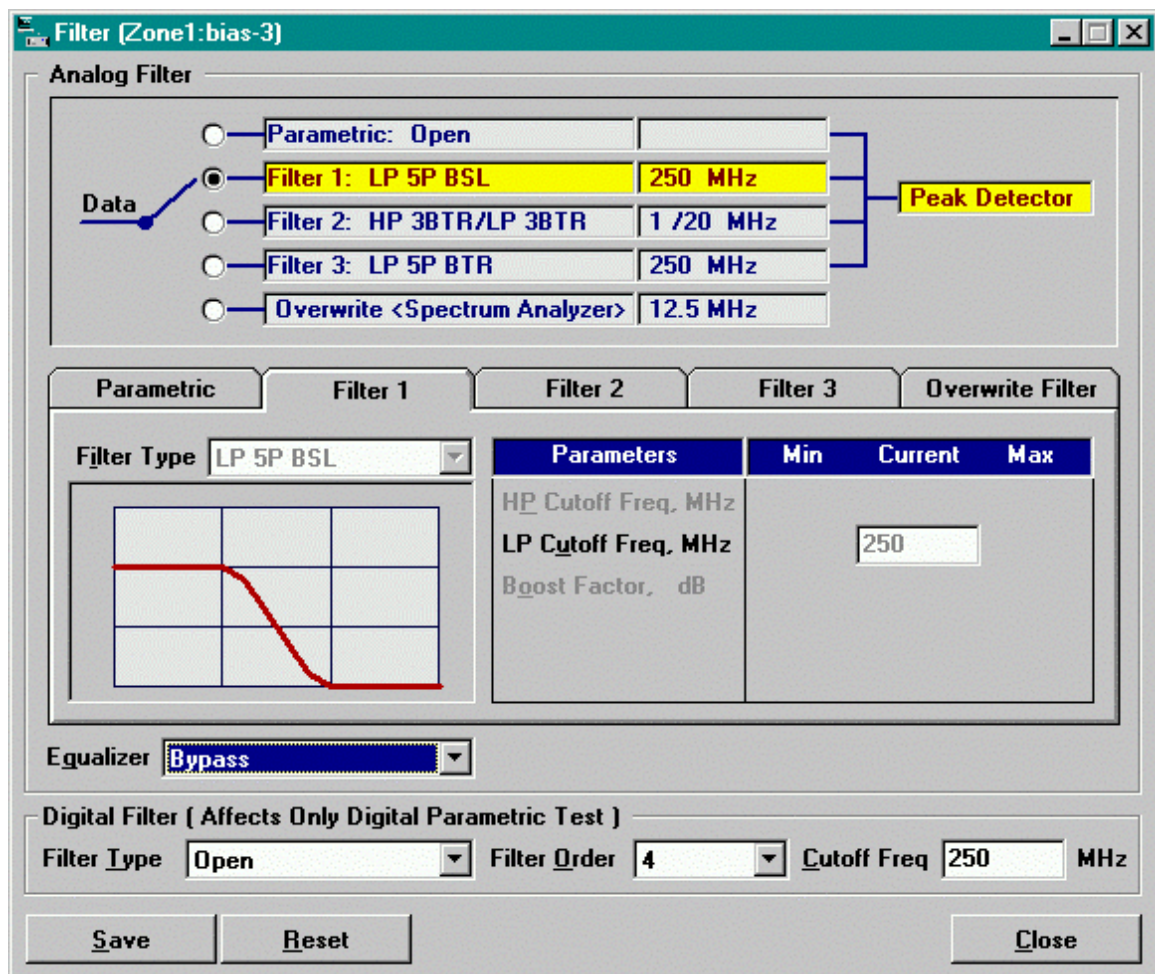

Figure 5: Filter Dialog Box
- The drop-down list in the *Equalizer* text field (see Figure 5) allows you to determine whether to bypass the equalizer hardware in the Analog Box or use it. This field is disabled, if the equalizer is not installed in the system.